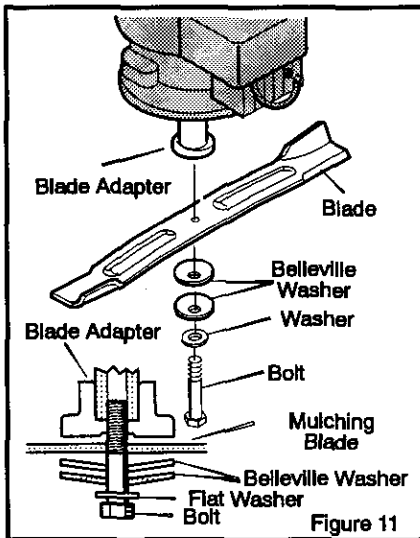

Figure 11
7. Fasten the blade with the original washers and bolt. Make sure the outside rims of the Belleville washers are toward the blade (Figure 11).